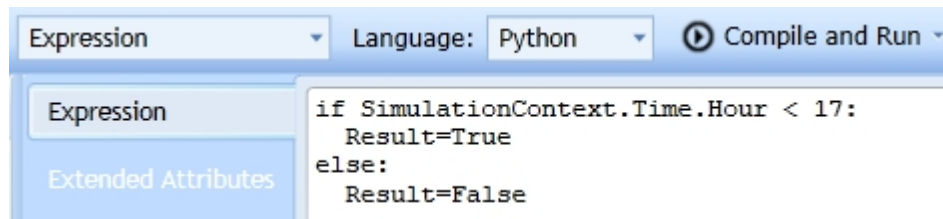

Figure 4 - The conditions at the branching exclusive gateway
- Therefore put the condition depicted in figure 4 on the left sequence flow at the branching exclusive gateway